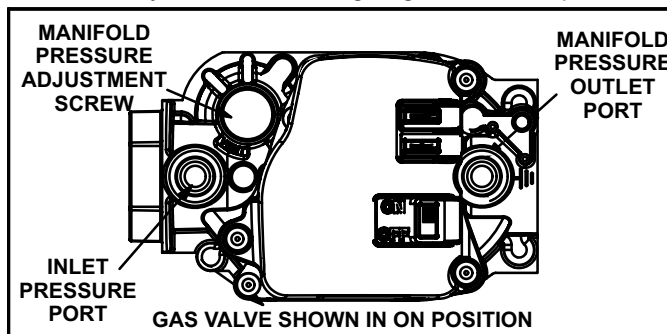

FIGURE 25
Gas Valve Operation (Figure 25)
- 6 - Move switch on gas valve to **OFF**. Do not force. See figure 25.
- 8 - Move switch on gas valve to **ON**. Do not force. See figure 25.